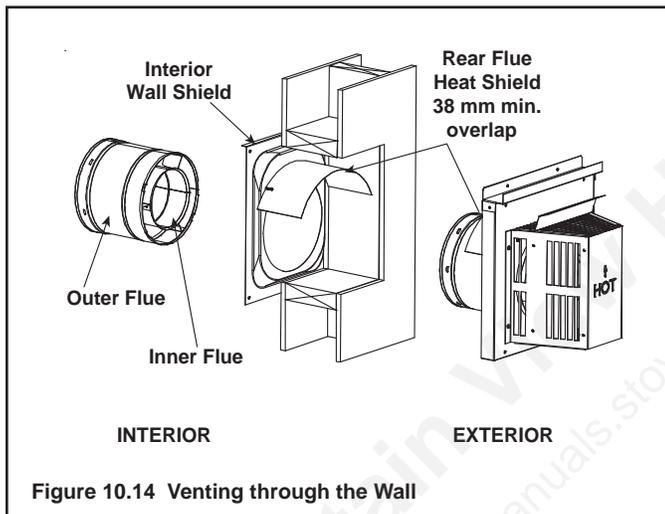

Figure 10.14 Venting through the Wall
- One section of the heat shield is attached to the wall shield. The other is attached to the termination cap in the same manner (see Figure 10.14).
- The small leg in the shield rests on top of the flue to properly space it from the pipe section (see Figure 10.14).
- **DO NOT** remove the heat shields attached to the wall shield firestop and the horizontal termination cap (shown in Figure 10.14).
There are two sections of the heat shield. One section is factory-attached to the wall shield firestop. The other section is factory-attached to the cap. See Figure 10.14.